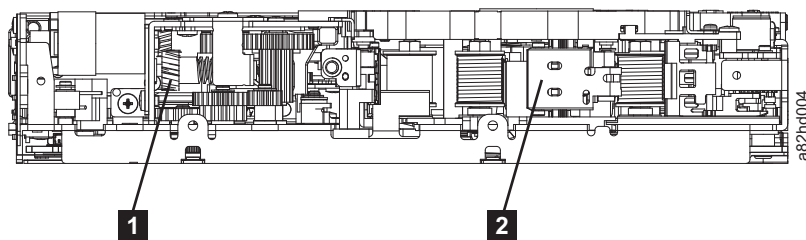

Figure 43. Leader block assembly (LBA)
6. Rotate the loader intermediate gear (**1** in Figure 43) clockwise as viewed from the front of the drive until it stops. This action releases the LBA leader pin.
7. Rotate the threader motor worm gear (**3** in Figure 43) counterclockwise until the leader block is in front of the read/write head. This action moves the LBA out of the cartridge.
8. Rotate the loader motor worm gear ( **3** in Figure 43 on page 103) counterclockwise as viewed from the front of the drive until it stops.